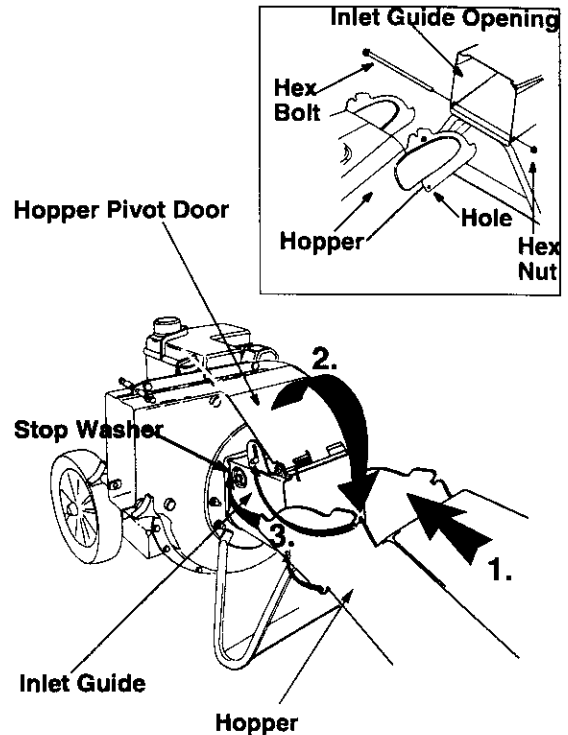

Figure 4
- Remove the 8-3/8" long hex bolt and the hex nut from the bottom of the inlet guide opening. See figure 4 inset.
- Place the hopper assembly on the ground and hold it in the position shown in step 1 in figure 4.
- Holding the hopper, push hopper pivot door down inside the hopper. See figure 4.
- Slide the hopper assembly towards the chipper-shredder housing so that the upper guide on the hopper assembly slides **under** the stop washer on each side of the inlet guide. See figure 4.
- Insert the hex bolt (that you earlier removed) from the left through the hole on the hopper and the inlet guide. Insert the hex nut onto the bolt from the other side. See figure 4 inset.